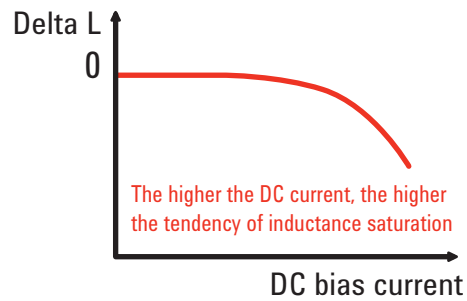
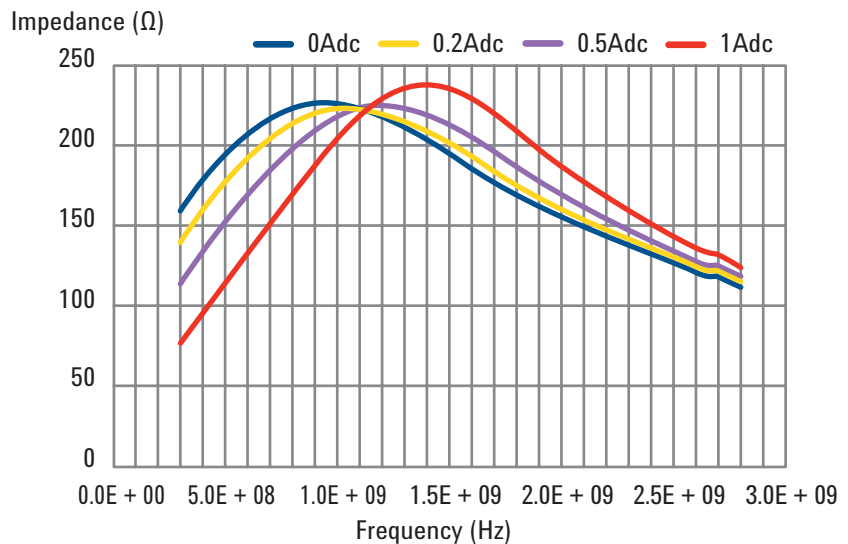

Figure 4. Inductance vs. DC bias currents
Figure 5. Comparison of ferrite bead impedance measurements with different DC bias currents superimposed
- 2) Pay attention to inductance saturation. Generally, core inductors such as ferrite beads have DC current dependencies as shown in Figure 4; the degree of inductance saturation differs depending on what material is used for the core of the component. This causes differences in impedance characteristics. Figure 5 shows how the impedance of a ferrite bead changes when superimposed with different DC currents. These impedance changes may cause a ferrite bead to exhibit a different noise removal effect or signal waveform than simulated. Therefore, to validate the effect of a ferrite bead, you have to identify its characteristics under actual operating conditions.